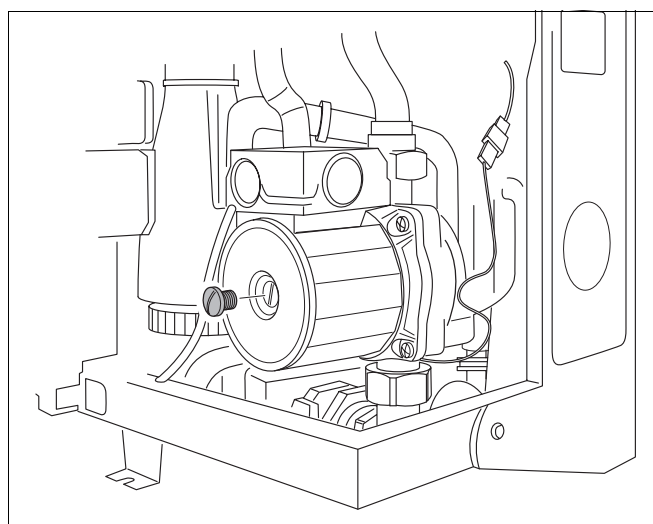

Fig. 65 600 - 11S / 19S / 24S / 24C:
- Remove screw plug on the pump (fig. 65).